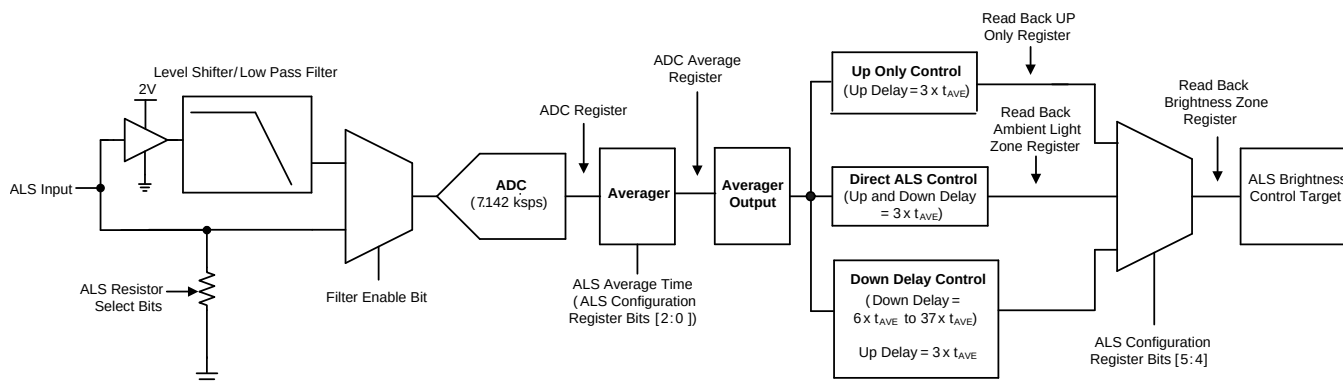
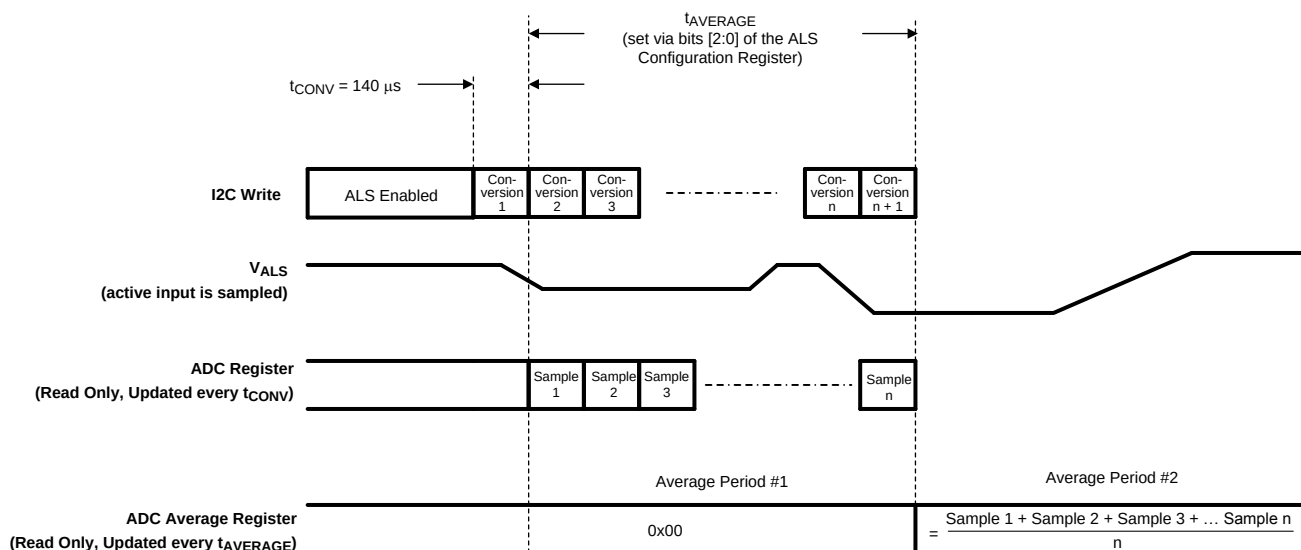

Figure 27. ALS Block Diagram
Figure 28. ADC Timing
Figure 27 shows the functional block diagram of the LM3533 device ALS interface.
The LM3533 digitizes the ALS voltage using an internal 8-bit ADC. The ADC is active as long as the ALS enable bit is set. Once set, the ADC begins sampling and converting the voltage at the ALS input at 7.142 ksp/s. The ADC output can be read back via the ADC register (address 0x37). With the ALS enable bit set, the ADC register is updated every 140 μs. Figure 28 details the timing of the ADC.
Once digitized the output of the ADC is sent into the ALS averager. The averager computes the average of the number of samples taken over the programmed average period. The ALS average times are set via bits [5:3] in the ALS Configuration Register. The output of the ALS average can be read back via the ADC Average register (address 0x38). With the ALS Enable bit set, the ADC Average register is updated after each average period (see Figure 28). After every average period the Averager Output stores the information for which brightness zone the ALS input voltage resides in (see Figure 27).
5. The Averager Output (see Figure 27) contains the zone that is determined from the most recent full average period.